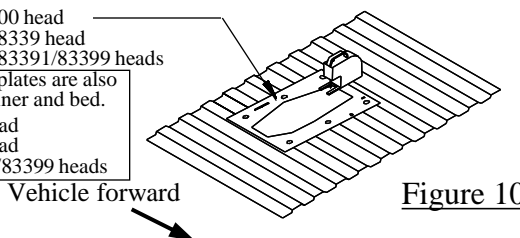

Figure 10
10. Align the holes on the template (provided with the gooseneck hitch) with the holes previously drilled through the bed (see Figure 10). Be sure that the template is properly oriented toward the front of the vehicle. Center punch the holes that will be used to cut the opening in the bed. If the vehicle is equipped with a bed liner, a section of the bed liner must be cut away so that the gooseneck hitch can contact the bed corrugations.